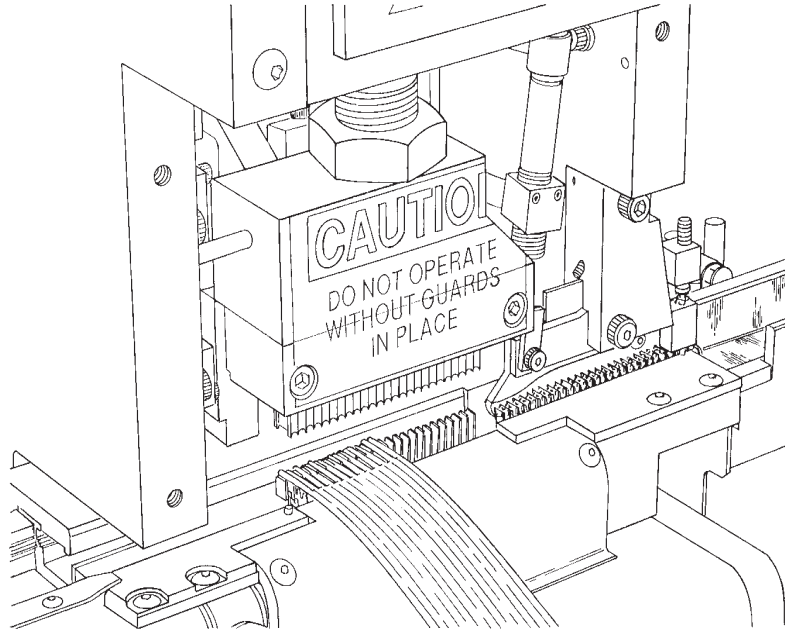

Figure 13
2. Place the cable end squarely on the contact slots between the box supports(guides) with the conductor ends against the cover centerline of the feed track. See Figure 13.